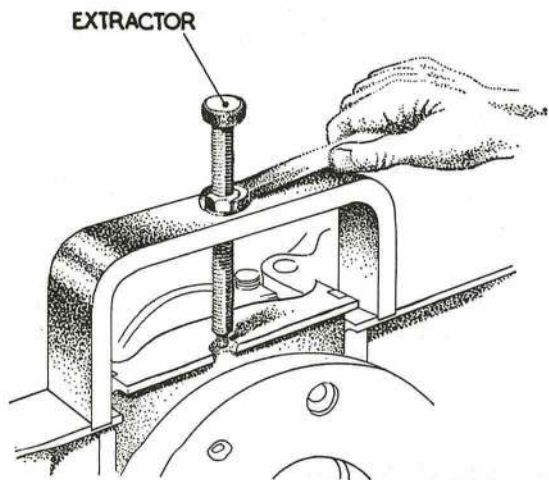

Fig. 5. WITHDRAWING MAIN BEARING CAP
9. If it is required to remove the crankshaft an extractor is usually required for the removal of the crankshaft main bearing caps, and Fig. 5 shows an extractor of this type in use. The knurled screw is screwed into the threaded hole in the bearing cap, and the bridge piece is positioned with its